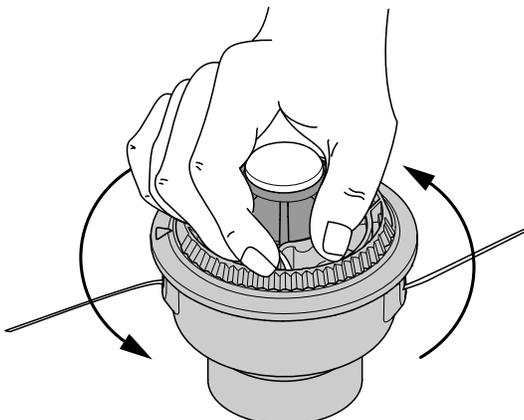

Fig. 12
- Hold the outer spool. Wind the inner reel counterclockwise until approximately four (4) inches (102 mm) of line remain (Fig. 12).